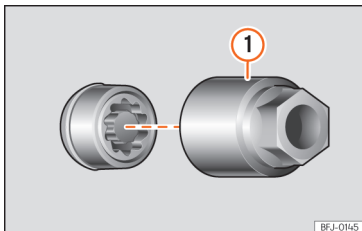

Fig. 239 Anti-theft wheel bolt with cap and adapter.
- Insert the special adapter »» Fig. 239 ① [vehicle tools »» page 312] onto the anti-theft wheel bolt and push it on as far as it will go.